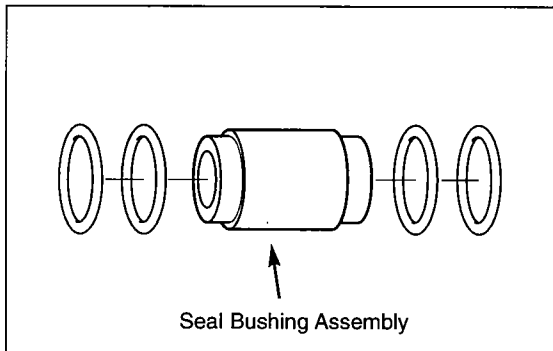

Figure 5
2. Assemble 2 O-rings (Item 50) on each end of the Seal Bushing (Item 3). (See Figure 5)